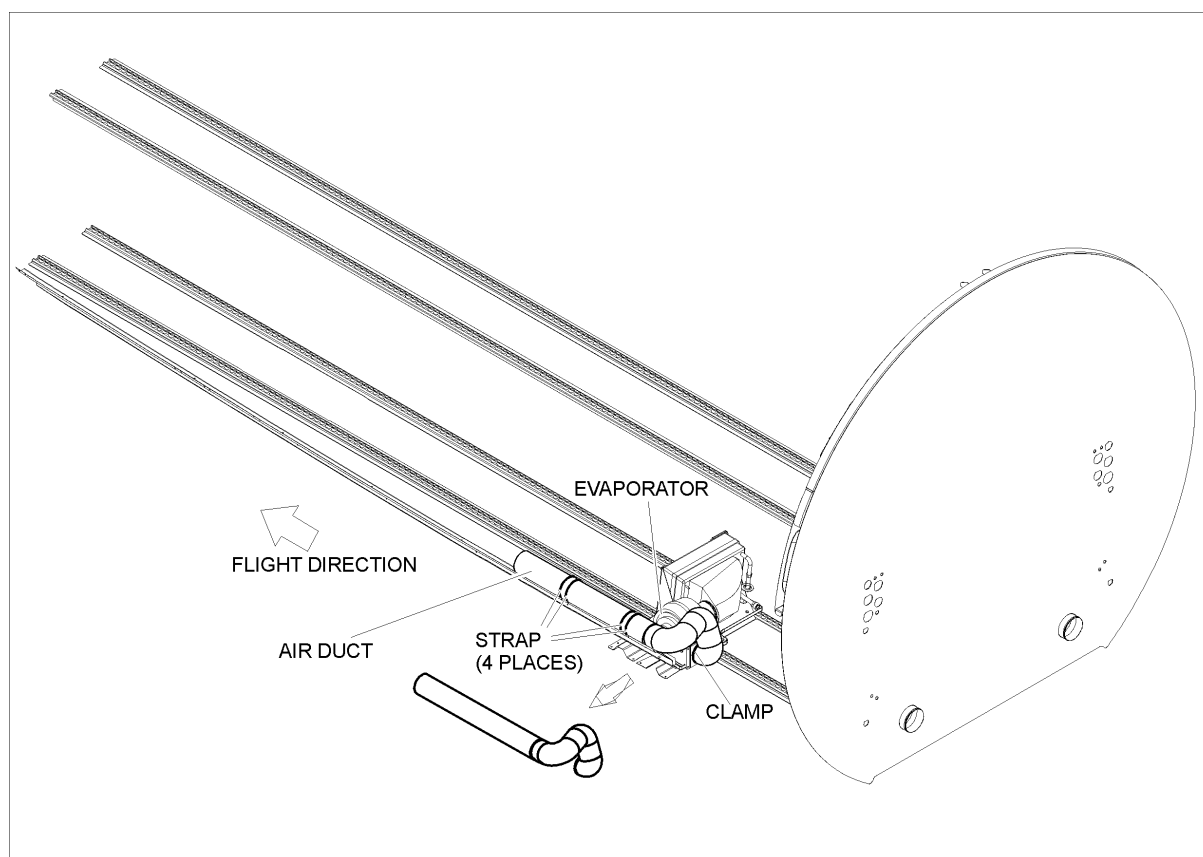

Fig. 230 - Evaporator Air Duct (Ferry Flight Configuration) - Removal
52. Evaporator Air Duct (Ferry Flight Configuration) - Removal(Ref. to Fig. 230)